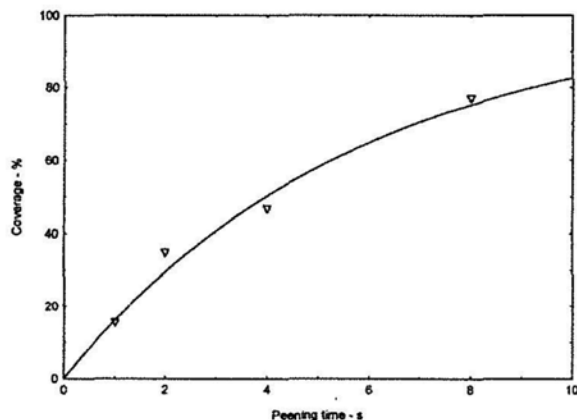

Fig.2 Comparison of coverages measured from Fig.1 with coverage curve prediction.
The total area that has been 'impacted' can be measured using image analysis and, for this specific example, yields values of 15.67, 34.85, 46.87 and 77.10% for 1, 2, 4 and 8s respectively. These values are plotted in Fig.2 together with the coverage curve that relates to an infinitely-large area impacted at the same rate. That coverage curve is based on the Avrami equation (see ref. 1):